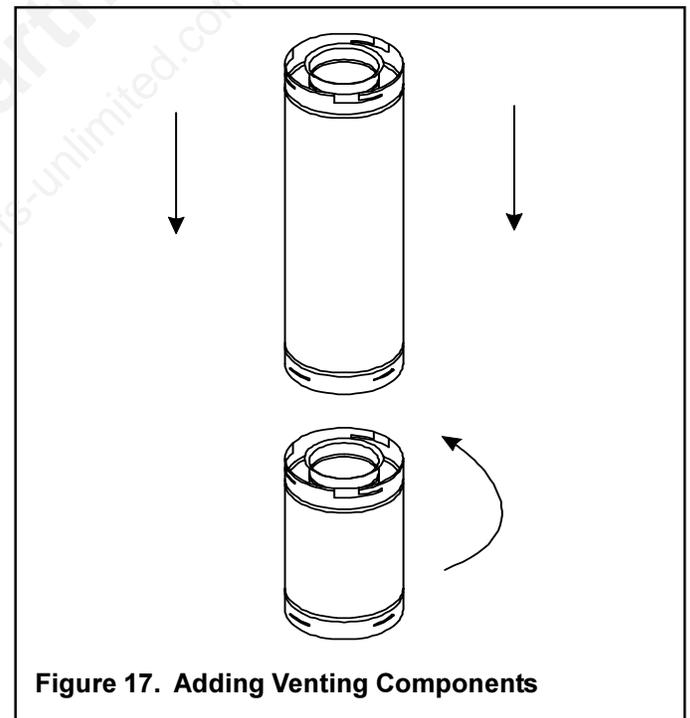

Figure 17. Adding Venting Components
- 90° elbows may be installed and rotated to any point around the preceding component's vertical axis. If an elbow does not end up in a locked position with the preceding component, attach with a minimum of two (2) sheet metal screws. Continue adding vent components, locking each succeeding component into place (see Figure 17).